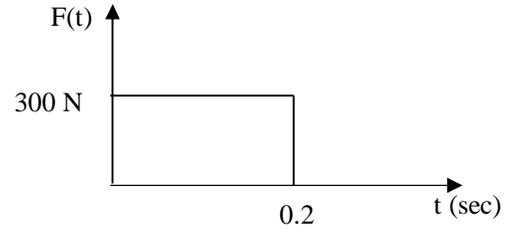

Fig.4
**Q.4 (b)** A single spring mass system has spring constant of 3000 N/m and mass of 30 kg. If it is loaded by an impulsive load as shown in the Figure 4, derive the equation of the response after completion of the impulse and find the responses at  $t = 1$  second. **07**